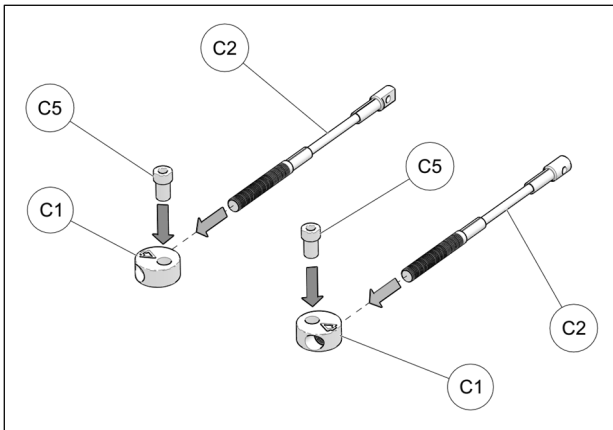

Fig. 20
10. Assemble steering limiter cables (C2), aluminum disks (C1) and step spacers (C5) together as shown on Fig. 20